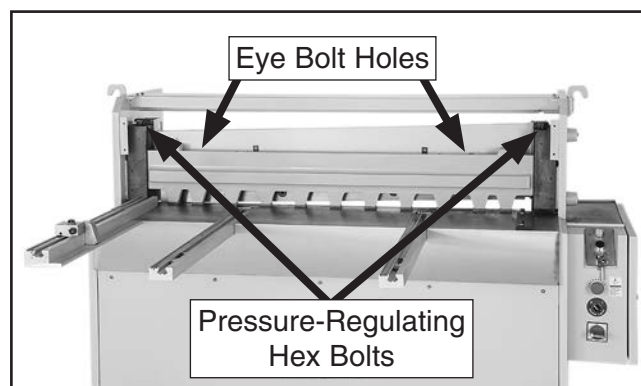

Figure 60. Hold-down clamp removal.
3. Remove two pressure-regulating hex bolts on hold-down clamp (see **Figure 60**), then lift out shaft and disc spring stack on each side.
4. Install (2) M10-1.5 eye bolts into top of hold-down clamp where shown in **Figure 60**.